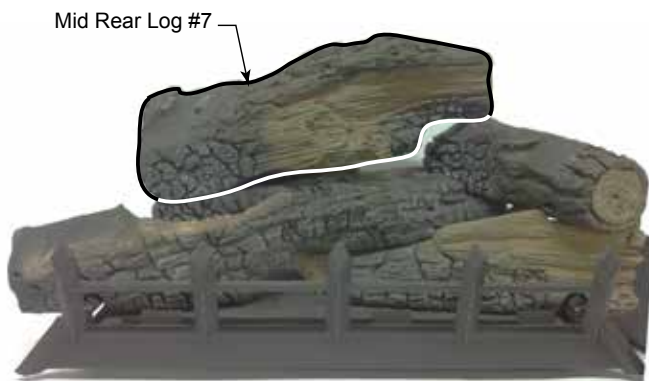

Figure 31
- Place mid rear log (#7) on bottom rear log (#1) and mid right log (#6) by placing notch on bottom of log onto locating block on log #1. Right side of log will rest on log #6. *Figure 31*